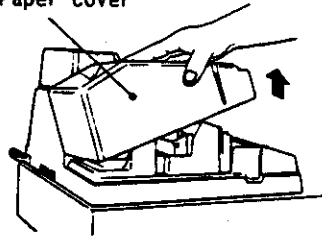

Fig. 1
2. Remove the Paper Cover by pulling it upward, and remove the Journal Winding Reel. (Fig.1)
2. Remove the Paper Cover. (Fig.1)